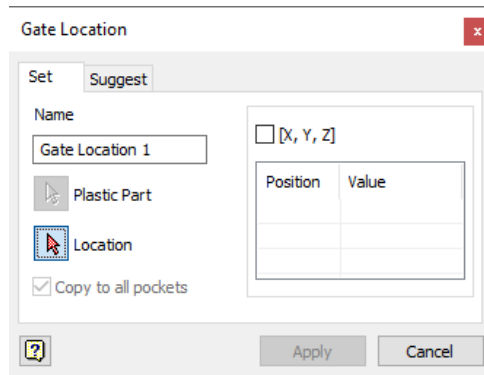

Figure 19-65 The Gate Location dialog box
2. Choose the **Gate Location** tool from the **Plastic Part** panel in the contextual tab; the **Gate Location** dialog box is displayed, as shown in Figure 19-65.